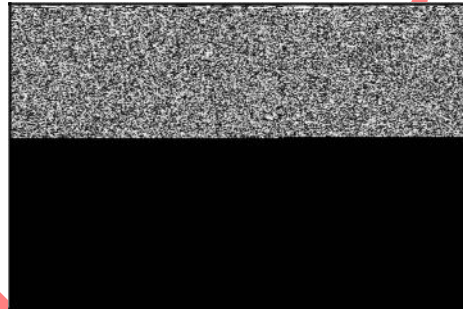

Figure 18
2. Install new foam seal (**B**, Figure 18) on choke shaft (**E**), then slide shaft into carburetor body (**C**). Rotate shaft clockwise (**A**), and insert choke valve into slot until centered, with dimples (**D**) positioned as shown. Actuate the choke shaft to check for proper movement.